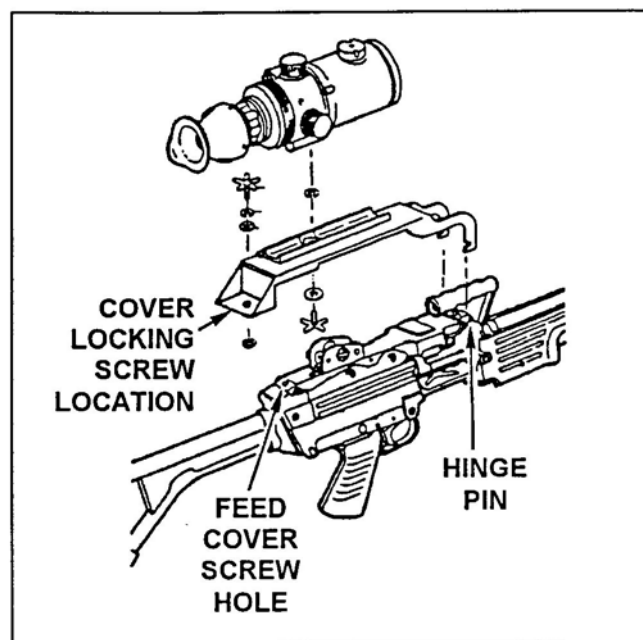

Figure 1. Install Mounting Bracket Assembly
1. Install the mounting bracket assembly (Figure 1).